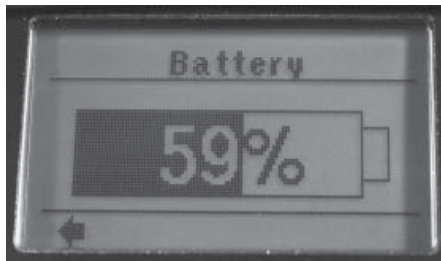

Figure 17. Battery Percentage
4. Press “ENTER” (Percent of battery life remaining is displayed)(Figure 17)